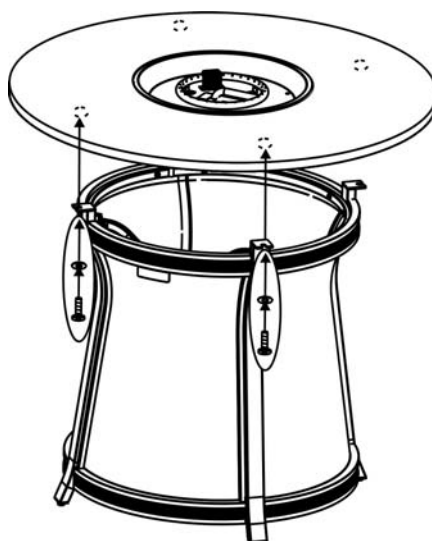

Figure 3
3. Place the tabletop onto the firepit base. Secure the tabletop to the firepit base by using the four 1/4"x20 mm bolts and washers that are provided. See Figure 3.